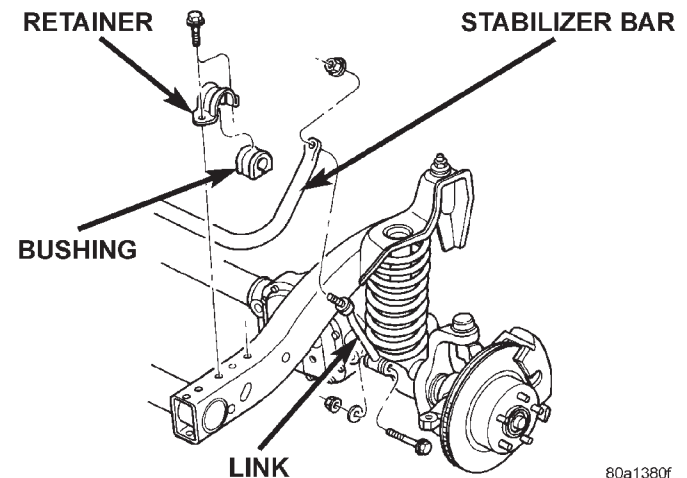

Fig. 6 Stabilizer Bar
(1) Remove upper link nuts (Fig. 6) and separate the links from the stabilizer bar with Remove MB-990635.
(2) Remove front bumper valence, refer to Group 23 Body for procedure.
(3) Remove stabilizer retainer bolts (Fig. 6) and remove retainers.
(4) Remove stabilizer bar.
(5) Remove lower link nuts and bolts and remove links (Fig. 6).